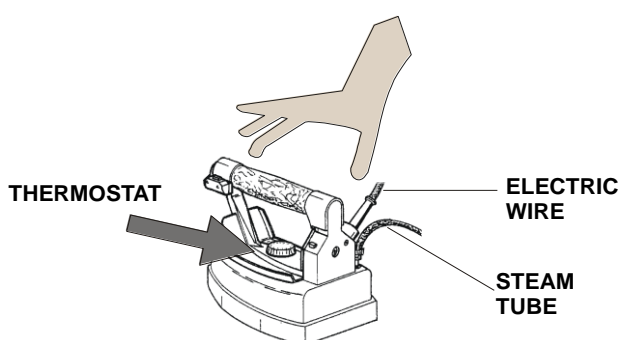

FIG. 2
4. For dry ironing it is possible to adjust thermostat (**fig. 2**) on different positions according to the type of fabric (look at garment label). On the other hand, for steam ironing you should adjust thermostat on "cotton" position (this one is good for all kinds of fabric).
1. damage of iron cables (**fig. 2**),